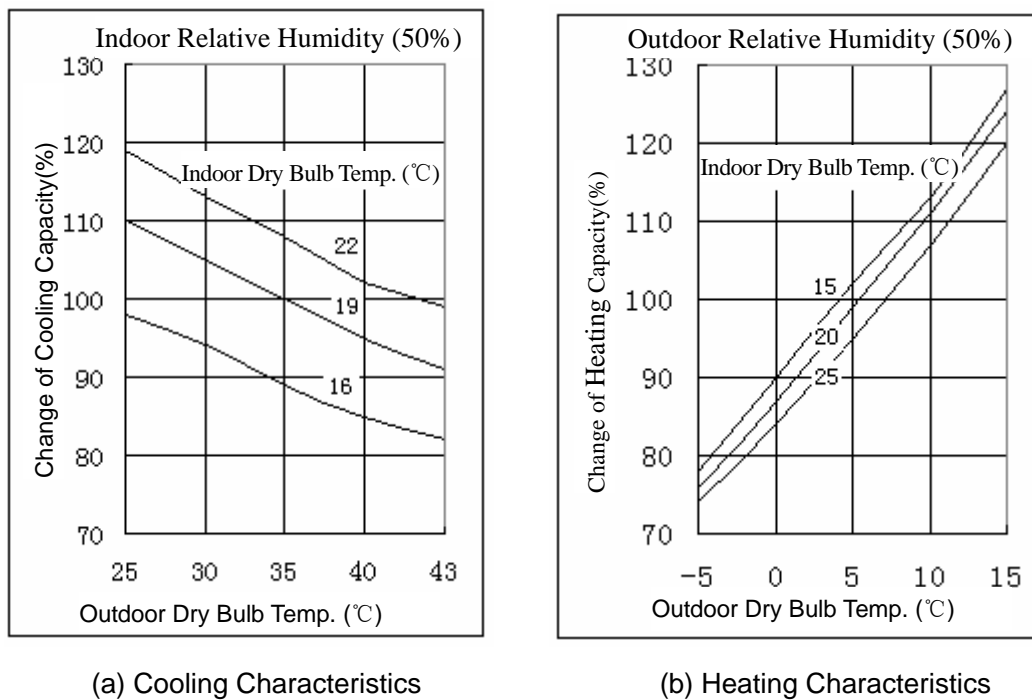

Fig. 3-2
3.2 Performance Curve (Fig. 3-2)